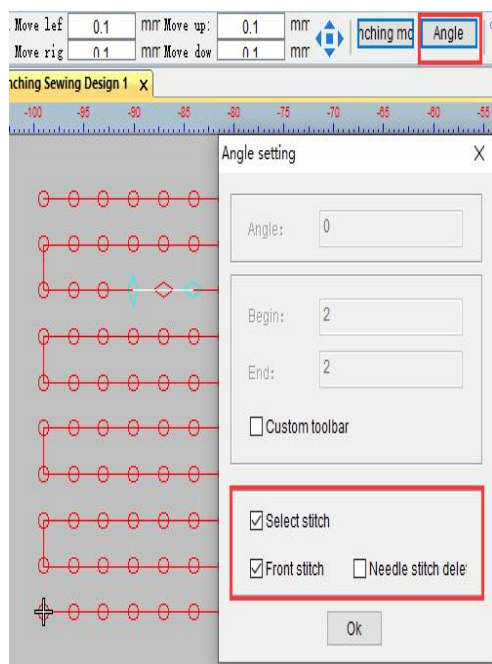
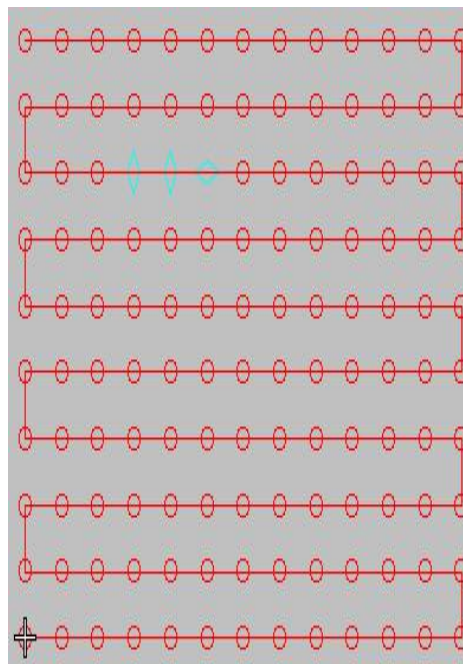

图 5 Picture5
图 6 Picture6
4. In the state of editing stitch, select the hole to adjust the angle, click the position shown in Figure 5 to select, and click OK, You can see the change of the hole, as shown in Figure 6.
2.点击  针迹删除右下角的小三角会出现如 3 所示对话框进行勾选点击确定，使用针迹删除折线工具进行选择如图 4，按“Enter”键或空格键确认如图 5，鼠标右键删除如图 6。